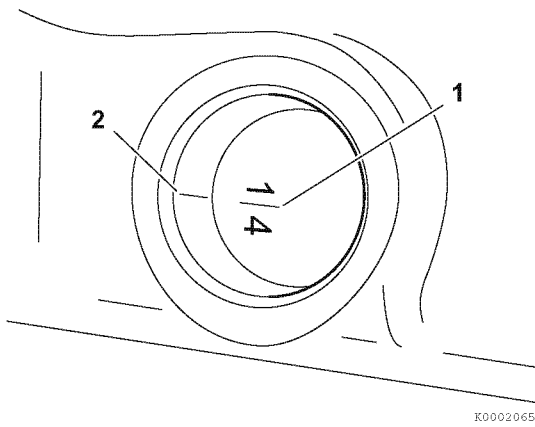

Figure 7-46
- Highlight the timing reference mark (2, **Figure 7-46**) on the flywheel housing or engine back plate (2, **Figure 7-47**). Highlight the TDC (Top Dead Center) mark (1, **Figure 7-46**) on the flywheel.